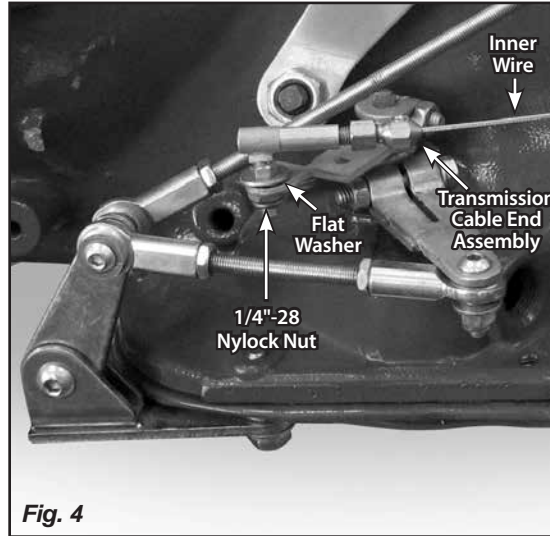

Fig. 4
Step 3: Install the transmission cable end assembly onto the original factory kickdown lever (not included) on the transmission, with the flat washer on top and the 1/4"-28 nylock jam nut underneath. Fig. 4